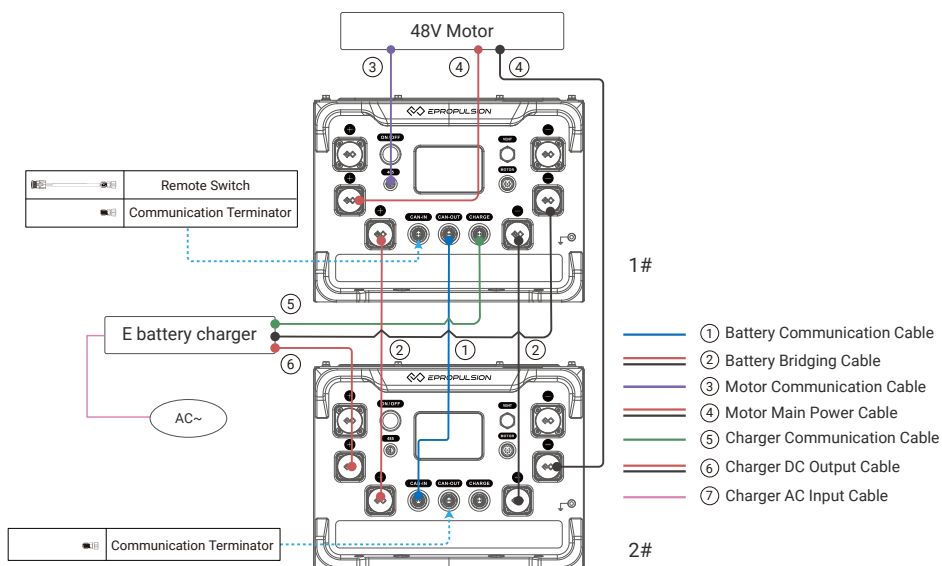

Figure 2-3
-  When the parallel batteries are connected to the ePropulsion outboard motor, it needs to connect the outboard motor to 1# battery with the communication cable (refer to figure 2-3). And the outboard motor can only be connected with 1# battery.
⚠ When multiple batteries of the same model are connected in parallel, you can only press the power button on the 1# battery (the battery connects to the machine, refer to figure 2-3) or the remote switch to turn on/off the batteries.